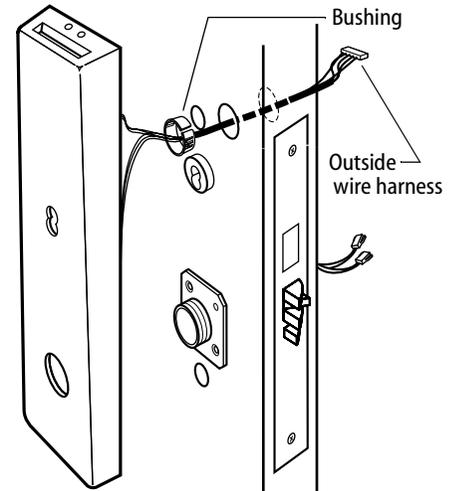
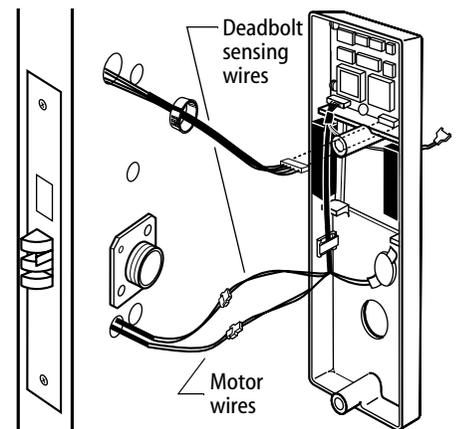

Figure 10
Figure 11
- 1 Insert the bushings into the wire hole, as shown in Figure 10 and Figure 11.
- 2 Feed the outside wire harness through the top wire hole, as shown in Figure 10.
- 4 From the inside of the door, connect the motor connector and the optional deadbolt sensing connector to their mating connectors from the circuit board, as shown in Figure 11.